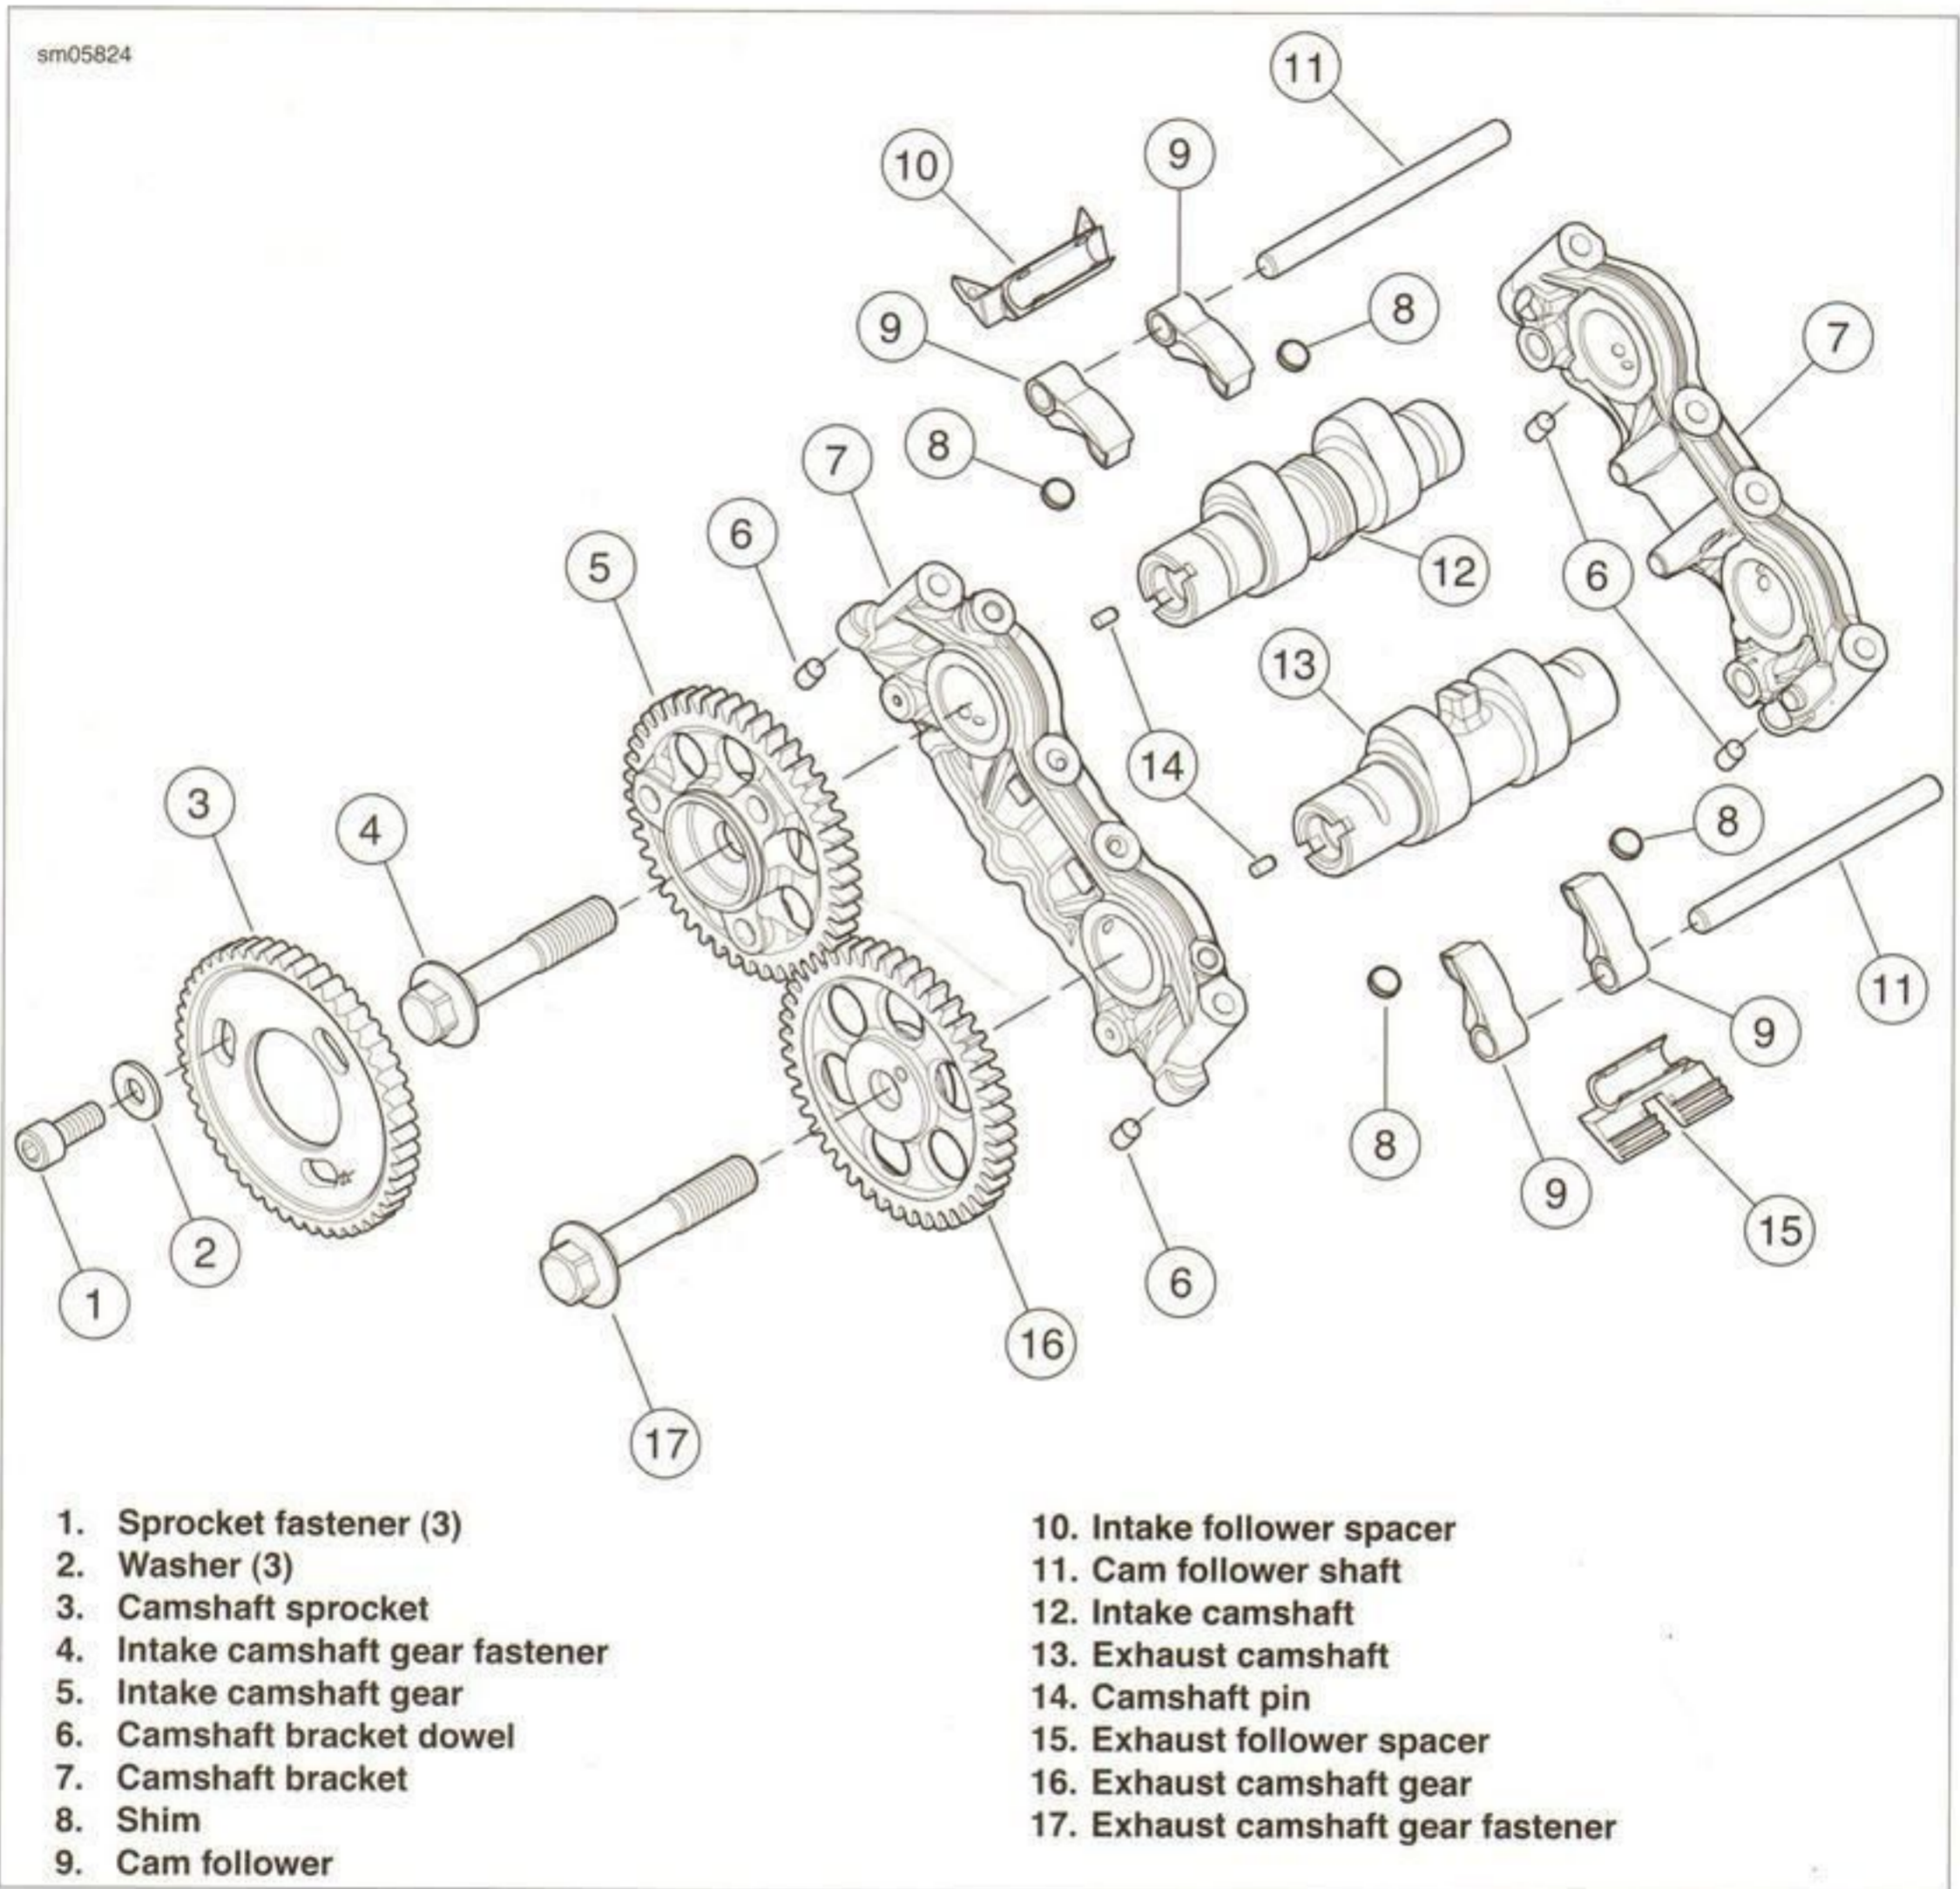

Figure 3-72. Camshaft Assembly
1. See Figure 3-72. Remove sprocket fasteners (1), washers (2) and camshaft sprocket (3).
2. Remove intake camshaft gear fastener (4) and intake camshaft gear (5). Discard fastener.
3. Remove exhaust camshaft gear fastener (17) and exhaust camshaft gear (16). Discard fastener.
4. Remove intake follower spacer (10) and exhaust follower spacer (15).
5. Remove one of the camshaft brackets (7) from intake (12) and exhaust (13) camshafts.
6. Remove cam follower shafts (11) and cam followers (9) from camshaft bracket.